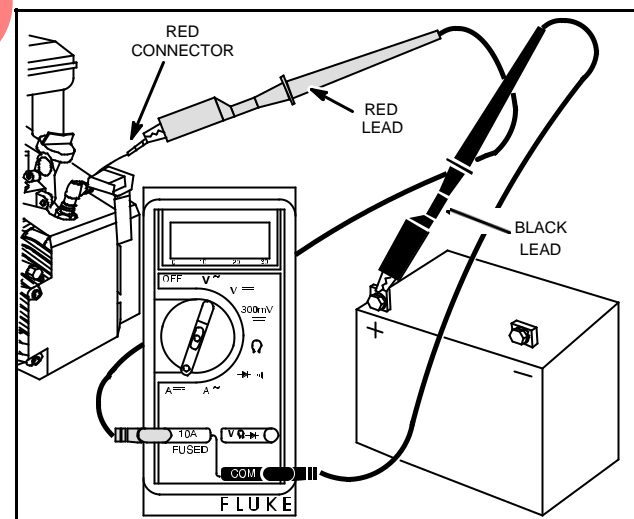

Fig. 25 – Testing Regulator-Rectifier
4. Attach RED test lead clip to DC output terminal on regulator-rectifier, Fig. 25.